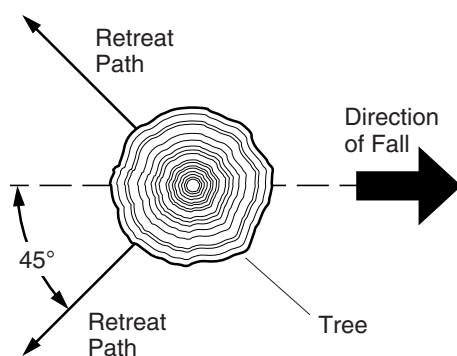

Figure 10 - Retreat Path From Tree
3. Plan and clear a retreat path before felling. Make retreat path opposite to planned direction of fall of tree and at 45° angle (see Figure 10).